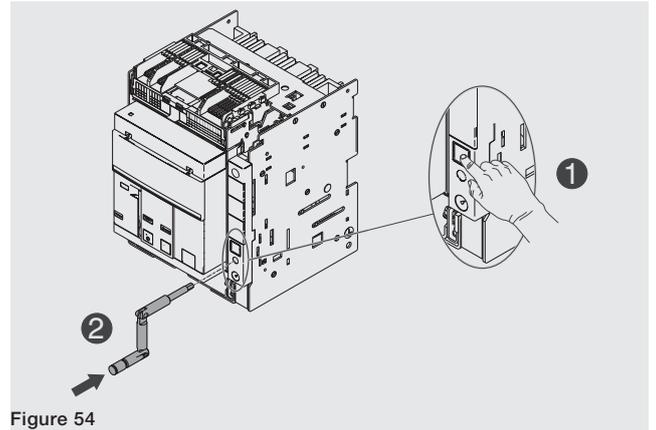

Figure 54
5. Press the lock pushbutton and insert the crank in the moving part. In this phase the moving part is still in **DISCONNECT** position. See Figure 54.